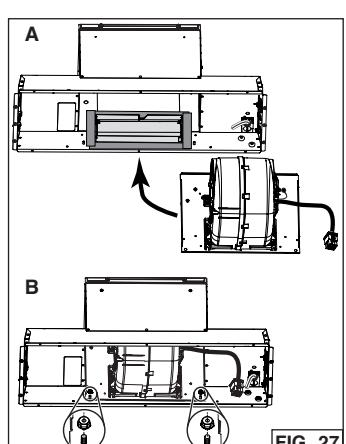

FIG. 27
5. Insert the blower with its support plate inside the unit, where the back plate was initially (A). Attach to the unit using 2 nuts previously removed in step 8 in PREPARE THE UNIT section (B) (FIG. 27).